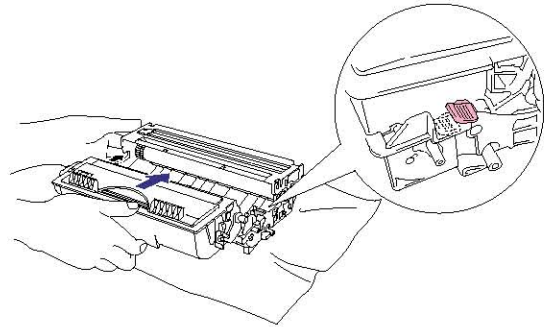

Fig. 5-2
- (4) Install the toner cartridge into the new drum unit until it locks into place, indicated by a click. When the toner cartridge is installed correctly, the lock lever is lifted automatically. (Fig. 5-2)
- (5) Install the new drum unit into the printer. **Check that the printer is turned on and the 'COVER OPEN' message is indicated on the LCD.**